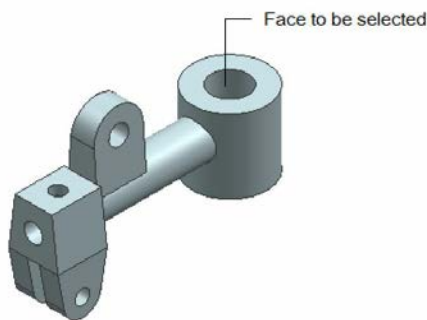
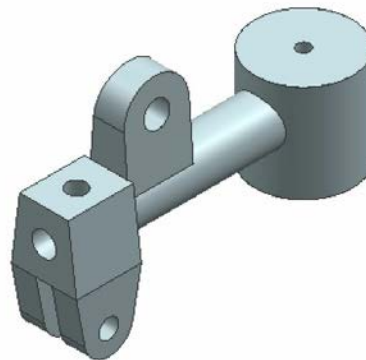

Figure 13-128 Inner face to be selected
Figure 13-129 Resultant model
- Decrease the internal diameter of the cylinder using the **Radial Dimension** tool, refer to Figure 13-128.
2. Select the inner face of the cylinder, refer to Figure 13-128. Next, select the **Diameter** radio button in the **Size** rollout and then enter **8** in the **Diameter** edit box of the **Size** rollout. Next, choose the **OK** button. The resultant model is displayed, as shown in Figure 13-129.